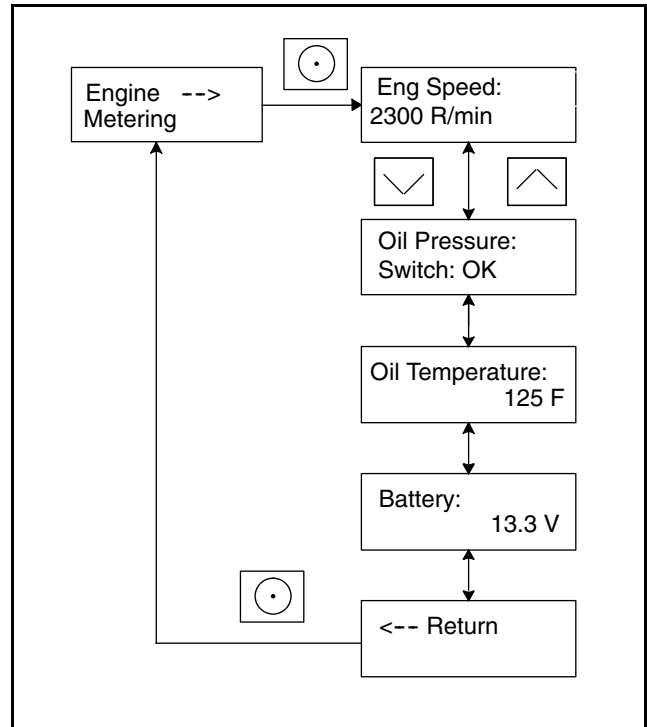

Figure 3-11 Engine Metering Menu
4. Press the Select button to enter the Genset system menu. See Figure 3-11.
The engine metering menu displays engine status information as shown in Figure 3-11. This menu displays status information only. No settings can be changed from this menu.